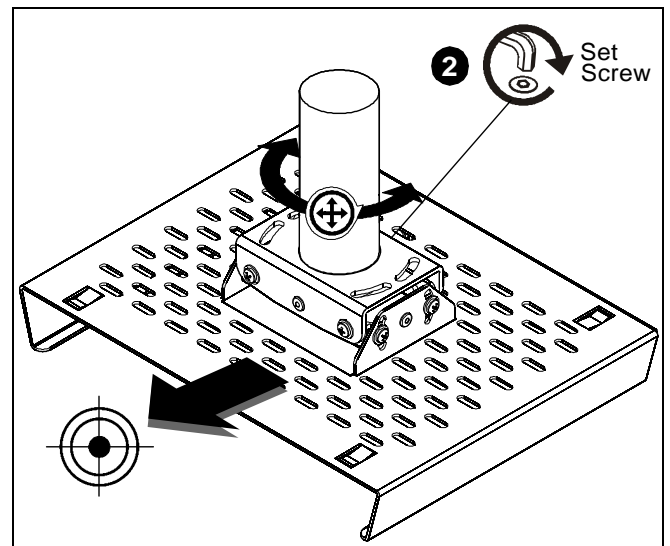

Figure 4
1. Turn MSP-CCS1 sleeve clockwise or counterclockwise until the front of the MSP-CCS1 is facing target. (See Figure 4)
2. Tighten set screw. (See Figure 4)